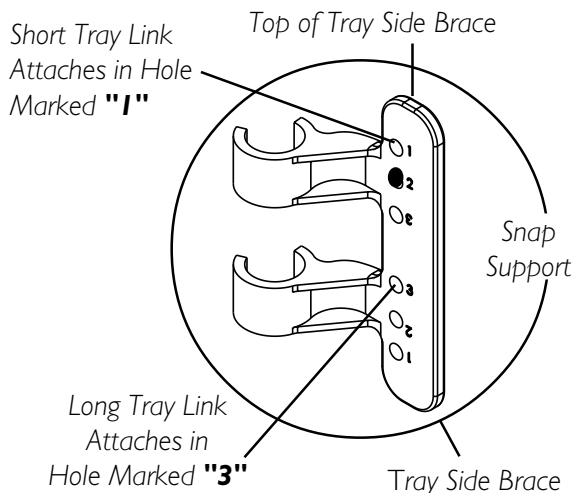

FIGURE 4 - INSERTING TRAY LINKS INTO TRAY SIDE BRACES
ATTACHING THE WALKER TRAY TO THE TRAY SIDE BRACES (FIGURE 4)
1. Place the walker tray onto the walker with the walker tray links positioned towards the front of the walker as shown in FIGURE 4.
2. Insert and lock the tray links into the following holes of the tray side brace as shown in FIGURE 4.
NOTE: There are two (2) sizes of tray links. Refer to the chart below and FIGURE 4 to determine tray link size.